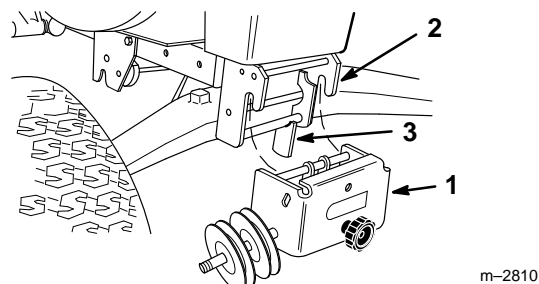

Figure 8
14. Place pulley assembly into front hitch and lock by moving latch rearward (Fig. 8).